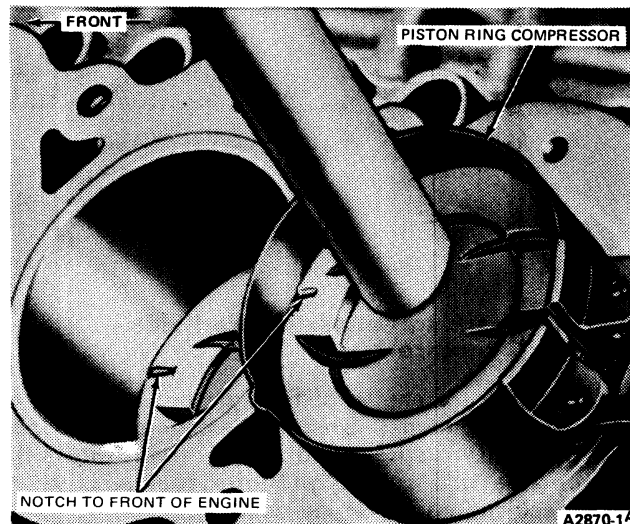

FIG. 41 Installing Piston
4. Install a piston ring compressor on the piston and push the piston in with a hammer handle until it is slightly below the top of the cylinder (Fig. 41). Be sure to guide the connecting rods to avoid damaging the crankshaft journals. Install the piston with the indentation notch in the piston head toward the front of the engine.